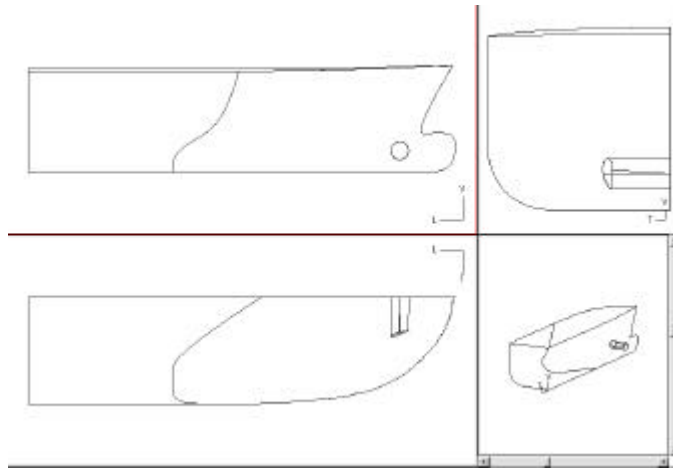

Figure 2-25: Trimmed Foreship and Foredeck
10. In the *Trim Foreship Surface* dialogue, select both of the curves **Foreship-Foredeck** and **Foreship-Thruster Curve** and click **OK**. Answer **Yes** at the appropriate trim option shown and **No** to the others. (See figure 2-25.)